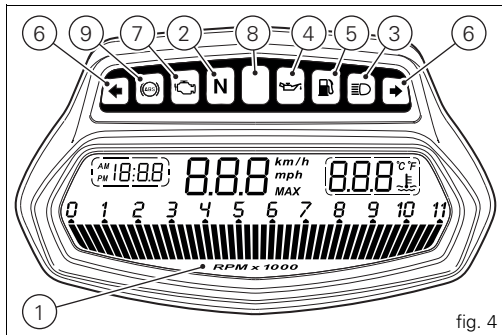

fig. 4
- 8) Limiter light "Over rev"/traction control light "DTC" (RED) (fig. 4):
- 9) ABS LIGHTS (Ⓜ) (AMBER YELLOW) (fig. 4).
In the event of a sensor "error", a string of flashing dashes ("---") is shown and the "Engine/vehicle diagnosis - EOBd" light (7, fig. 4) comes on.